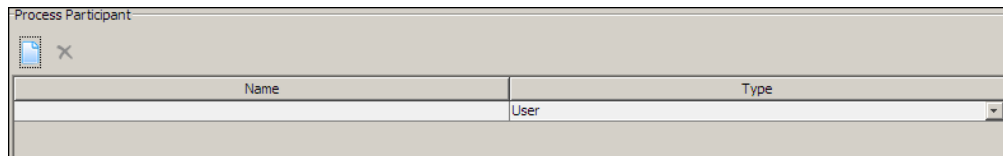

Figure 14: Creating Process Participant
- Click **Create New Process Participant** (). This displays a new user field in the **Process Participant** section (see Figure 14).